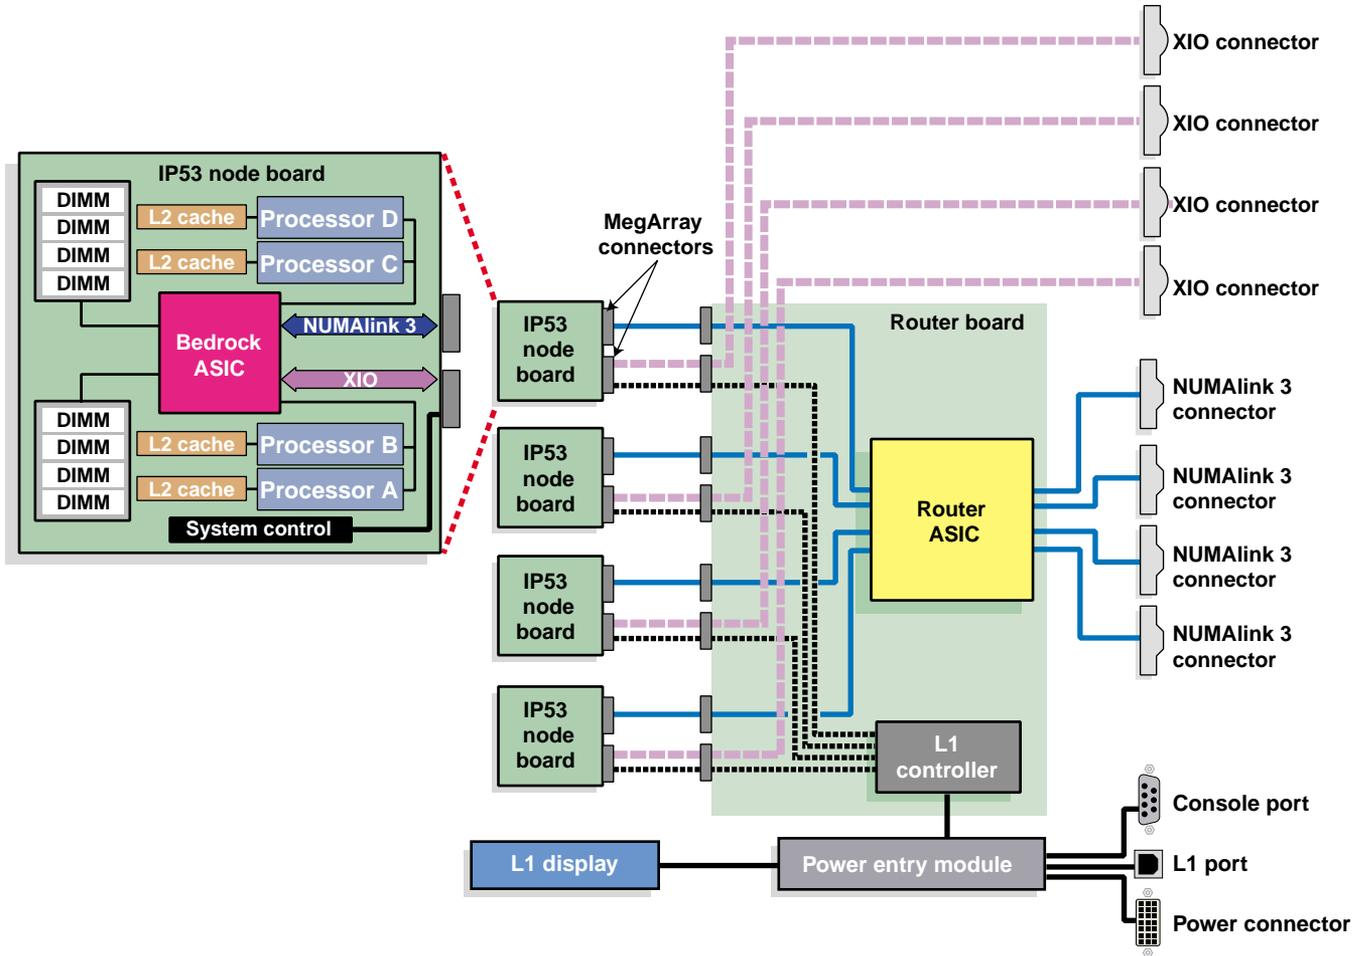

Figure 3-2 Cx-brick Block Diagram
The following sections provide more detail about the components that make up the Cx-brick (see Figure 3-2):
- 0 or 4 processors (labeled A, B, C, and D in Figure 3-2).